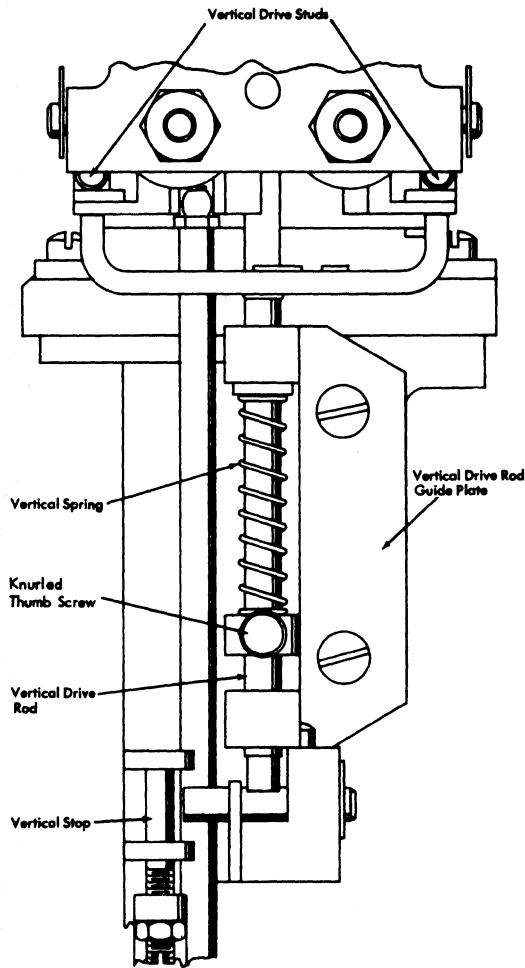

Figure 83. Vertical Drive Rod Assembly
1. Code plate is aligned with punch clutch latched up. Loosen locking screws of vertical drive-rod guide plate (Figure 83).
3. Unhook horizontal shift spring. Take tension off vertical shift spring by backing off knurled thumb screw (Figure 83).
5. Position both vertical drive studs within code plate slots and tighten locking screws of vertical drive-rod guide plate (Figure 83).